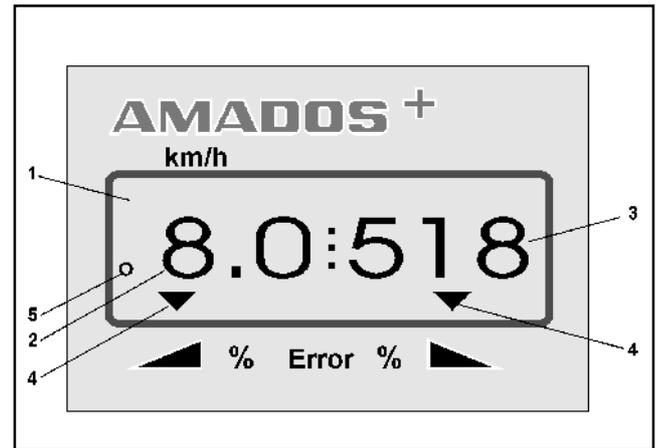

Fig. 1
AMADOS⁺ is supplied with a 6-digit display (Fig. 1/1) In operation position of the implement, the display shows:
- the current forward speed (Fig. 1/2) in [k.p.h.],
- the current spread rate (Fig. 1/3) in [kg/ha] and
- function control elements (Fig. 1/4) as, e. g. left and right hand shutter open.